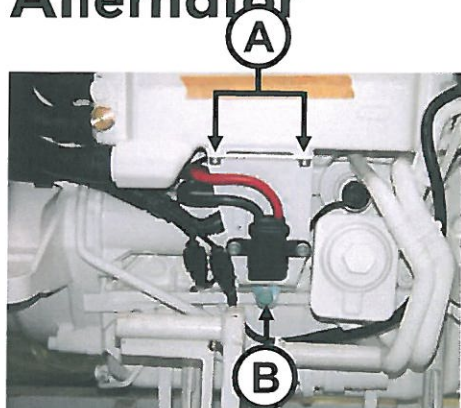

Fig. 1
#### Disassembly of ground relay holder (see Fig. 1):
1. Unscrew both screws at the top of ground relay holder (see Fig. 1 –A-).
2. Unscrew the screw at the bottom of ground relay holder (see Fig. 1 –B-).
1. Fold back ground relay holder to original position and fix it with three hexagon screws as shown in Fig. 1.